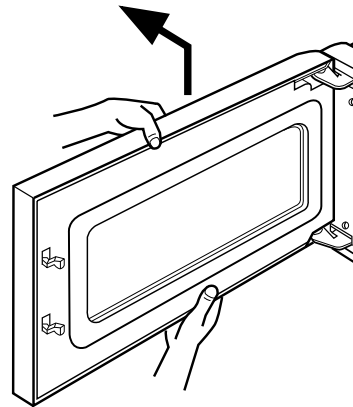

Figure 17
F. REMOVING DOOR (Figure 17)
- (1) Remove the vent grille by removing two screws securing it to the front bracket.
- (2) Lift up and push the door.